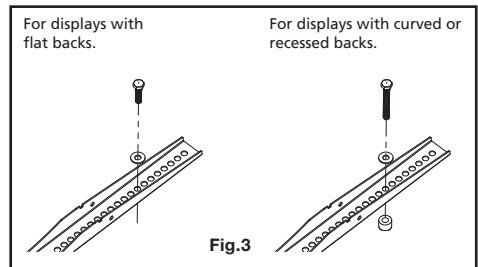

Fig.3
- B. If the back of your display is curved, has a protrusion, or if the mounting holes are recessed, you will need to use the longer screws (B or D) and spacers (E).
3. Attach the mount arms to the back of your display using the M6 washers (I) and the screws identified in Steps 1 and 2 (see Fig.3)